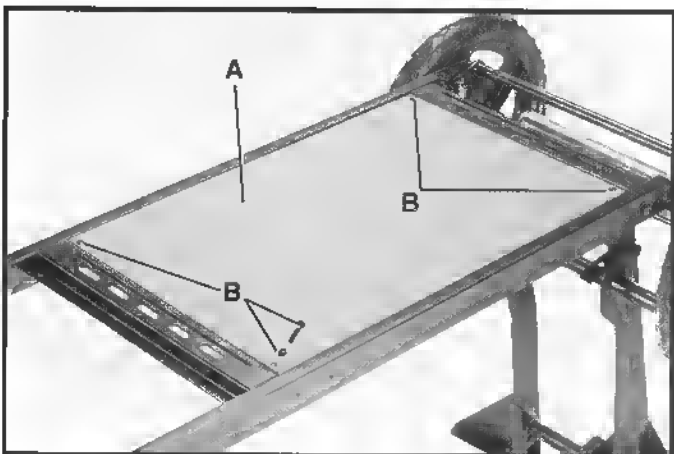

Fig. 29
1. Remove fiberboard (A) Fig. 29, by loosening and removing the four screws and nuts (B).